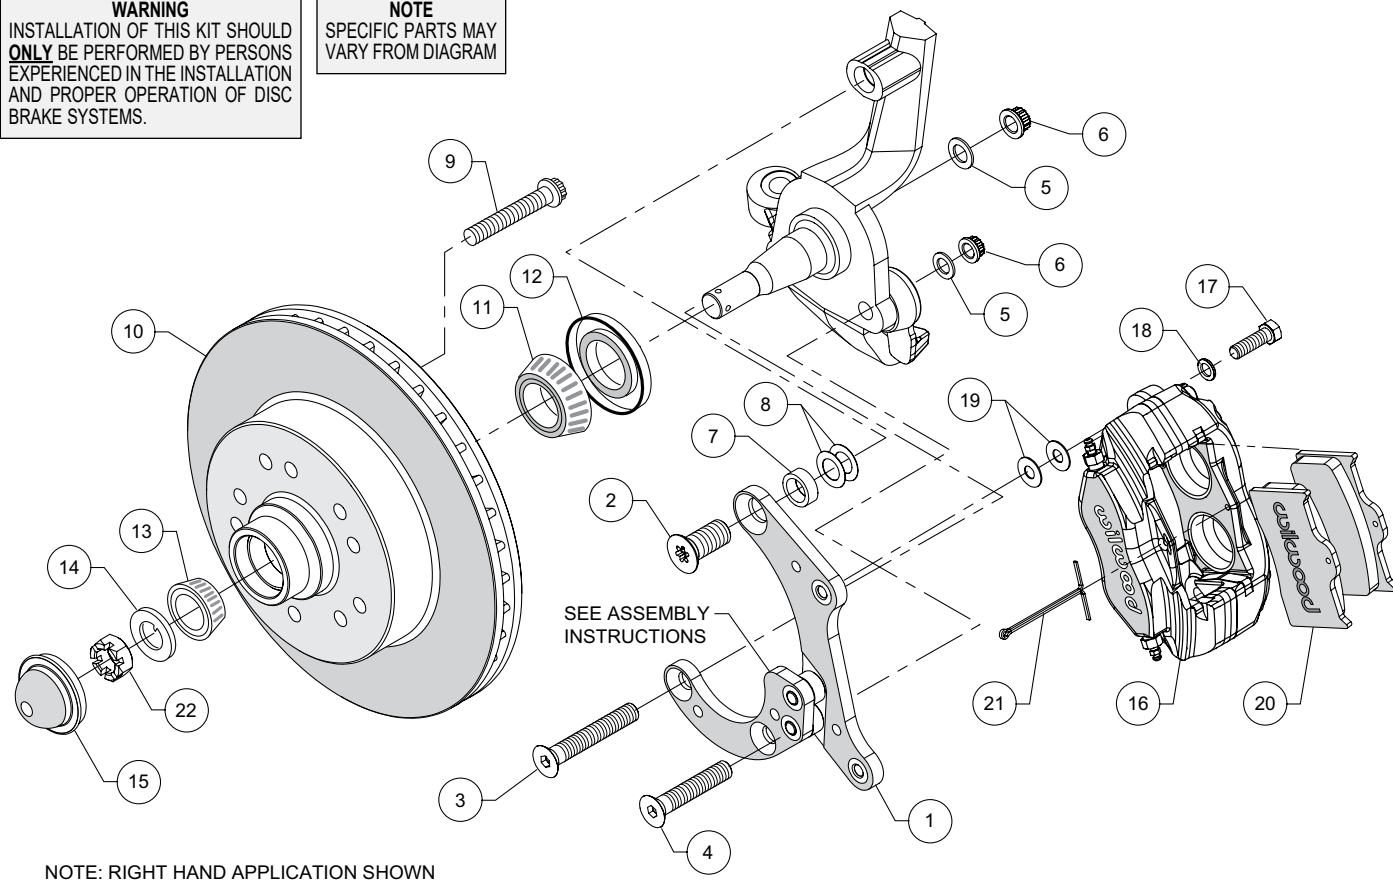
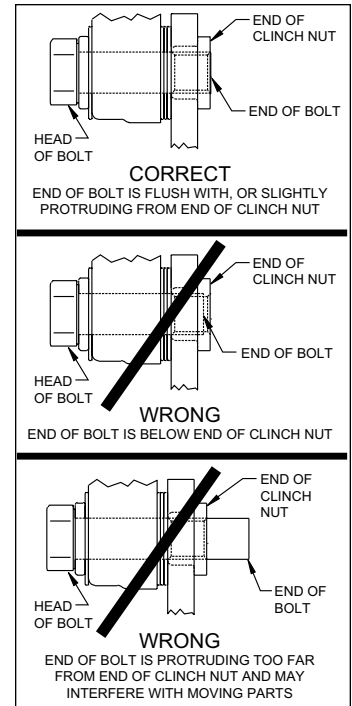

Figure 1. Typical Installation Configuration
Figure 3. Clinch Nut Engagement Diagram
NOTE: Numbers in parenthesis refer to the parts list and Figure 1 on the preceding pages.
CAUTION: All mounting bolts must fully engage clinch nuts. Be sure to check that all bolts are either flush or protruding through flanged side of clinch nut after shimming, Figure 3.
- The caliper bracket (1) should initially be installed with clean, dry threads on the mounting bolts. The bracket has been assembled at the factory for alignment purposes. Loosen the two bolts that secure the brackets together so that the bolts are hand tight only. This will enable the bracket assembly to be adjusted to accommodate various spindle tolerances during assembly. Orient the bracket as shown in Figure 1, and Photo 1. Install using bolt (2) on the upper hole. Place a .377" thick spacer (7) positioned between the bracket and spindle, as shown in Figure 1. Initially place two .010" shims (8) on the upper bolt between the bracket and spindle, Figure 1. Install bolts (3 and 4), washers (5) and nuts (6) in the lower holes, Figure 1. Temporarily tighten the mounting bolts, followed by the two bracket-to-bracket bolts. **NOTE:** The bracket must fit squarely against the mounting points on the spindle. Inspect for interference from casting irregularities, machining ridges, burrs, etc. Later, after the bracket alignment has been checked, the bolts will be secured using red *Loctite*® 271.
- Install the grease seal (12) by pressing into the backside of the hub (10), flush with the end of the hub.
- Temporarily install the hub/rotor (10) onto the spindle using outer bearing (13), spindle washer (14) and spindle nut (22). Check that the caliper mounting bracket (1) is aligned parallel to the rotor, Photo 4. If not, adjust by adding or subtracting shims (8) on the upper bolt between bracket and spindle, Figure 1. Once the bracket alignment is correct, remove the upper bolt (2), apply red *Loctite*® 271 to the threads and torque to 140 ft-lb. Torque lower lock nuts to 65 ft-lb. Remove one at a time the bolts that secure the two brackets to each other, apply red *Loctite*® 271 to the threads and torque to 40 ft-lb.
•**NOTE:** Please reference the caution statement at the beginning of the assembly instructions. Mount the caliper (16) onto the caliper mounting bracket (1) using bolts (17) and washers (18), as shown in Figure 1. Initially place two .035" thick shims (19) on each bolt between the caliper and the bracket, Photo 8. Temporarily tighten the mounting bolts and view the rotor (10) through the top opening of the caliper. The rotor should be centered in the caliper, Photo 9. If not, adjust by adding or subtracting shims (19) between the bracket and the caliper. Always use the same amount of shims on each of the two mounting bolts. **NOTE:** The end of each bolt must be flush with or slightly protruding from the head of the clinch nut, as shown in Figure 3. If necessary place spare shims between washer (18) and caliper mounting ear to achieve the proper clinch nut engagement. Once the caliper alignment and clinch nut engagement are correct, remove the bolts one at a time, apply red Loctite® 271 to the threads, and torque to 40 ft-lb.
•Install the disc brake pads (20) into the caliper, with the friction material facing the rotor (10), Photo 10. Secure in place using cotter pin (21), Photo 11.